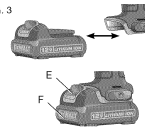
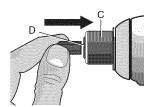

FIG. 4
FIG. 5
**NOTE:** The chuck accepts 1/4" (6.35 mm) hex accessories and 1" (25.4 mm) bit tips only. Place the forward/reverse button (B) in the locked off (center) position or remove battery pack before changing accessories.
To install an accessory, fully insert the accessory. The accessory is locked into place (Fig. 4). To remove an accessory, pull the chuck collar (C) away from the front of the tool. Remove the accessory and release the collar (Fig. 5).